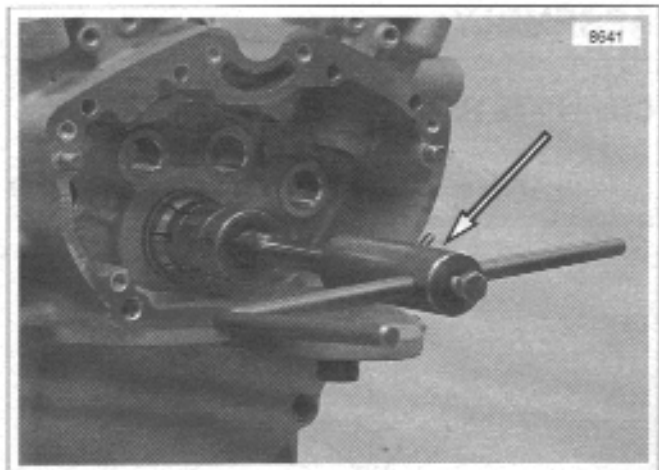

Figure 3-147. Lapping Pinion Shaft Main Bearing with Crankcase Main Bearing Lapping Tool (Part No. HD-96710-40B)
2. See Figure 3-147. Obtain CRANKCASE MAIN BEARING LAPPING TOOL (Part No. HD-96710-40B). Assemble CRANKCASE MAIN BEARING LAP (Part No. HD-96718-87) to lapping handle. Assemble guide sleeve to sprocket shaft bearing bushing. Sleeves, for use with tapered bearing, are assembled to case with bearings and small spacer collar. Finger-tighten the sleeve parts.